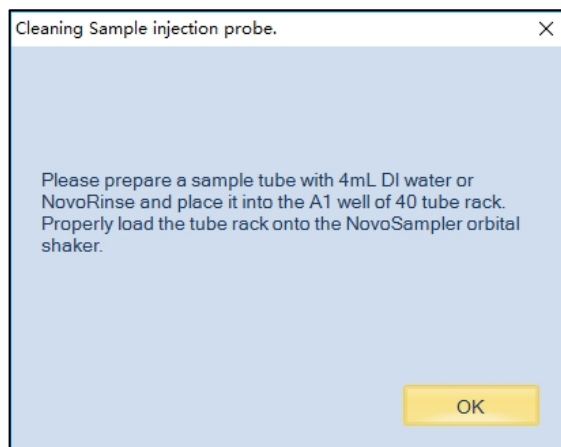

Figure 52. Software Message Instructing to Load a Sample Tube with NovoSampler Q Installed
- 6 Load a 40 tube rack on the orbital shaker and place a tube of Milli-Q or 0.2 μm filtered DI water or NovoRinse solution (1X) in A1 position. The instrument will shut down automatically after clicking **OK** button (Figure 52).